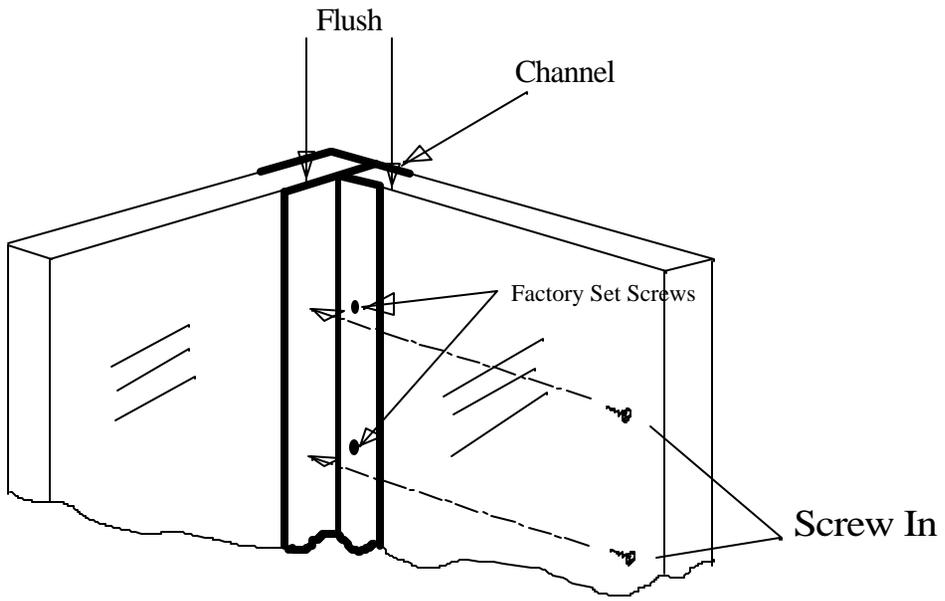

Fig. 1
- A.) Insert leading edge on panels into U-channel of corresponding panel making sure it is vertically and horizontally flush. Make sure it slides all the way in before securing to channel with metal tap screws. (Fig.1)